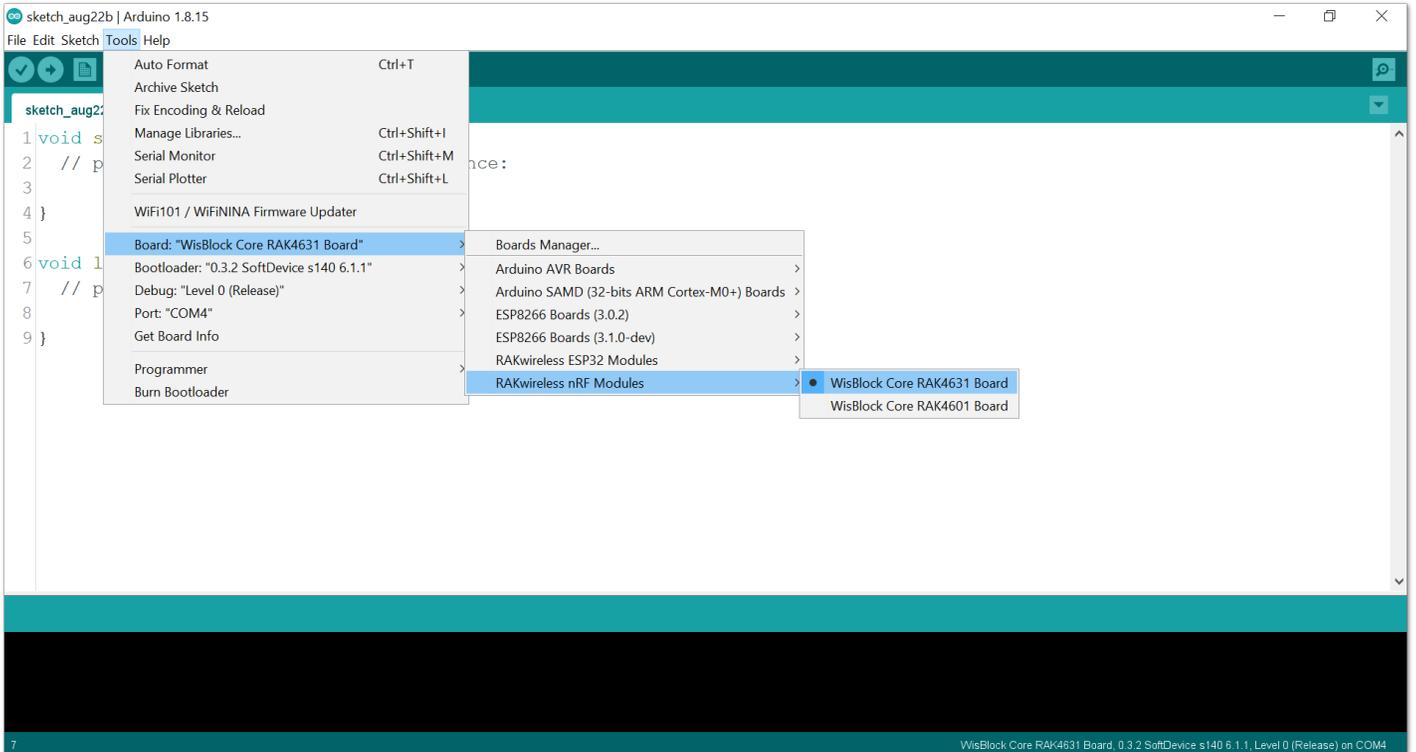
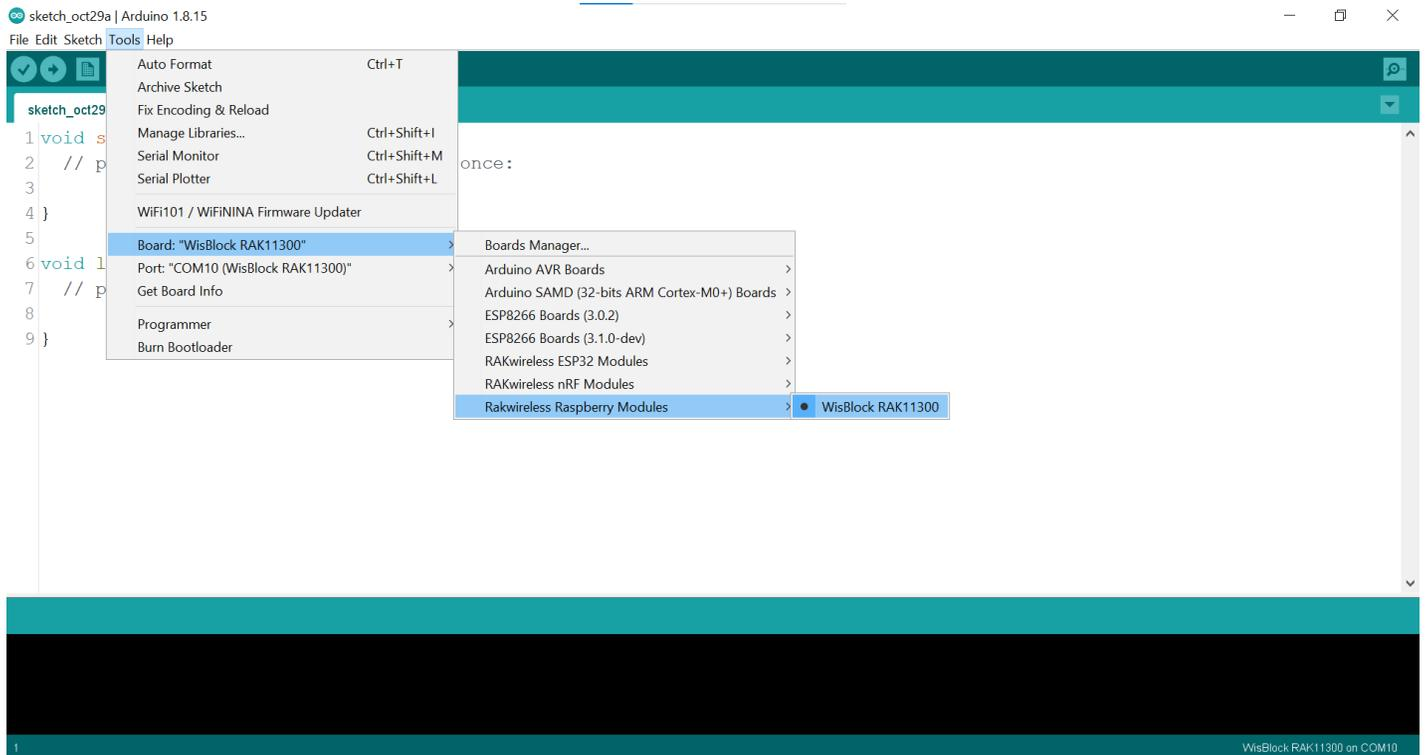

Figure 8: Selecting RAK4631 as WisBlock Core
Figure 10: Selecting RAK11300 as WisBlock Core
1. Open the Arduino IDE and select the WisBlock Core you use, as shown in **Figure 8** to **Figure 10**.